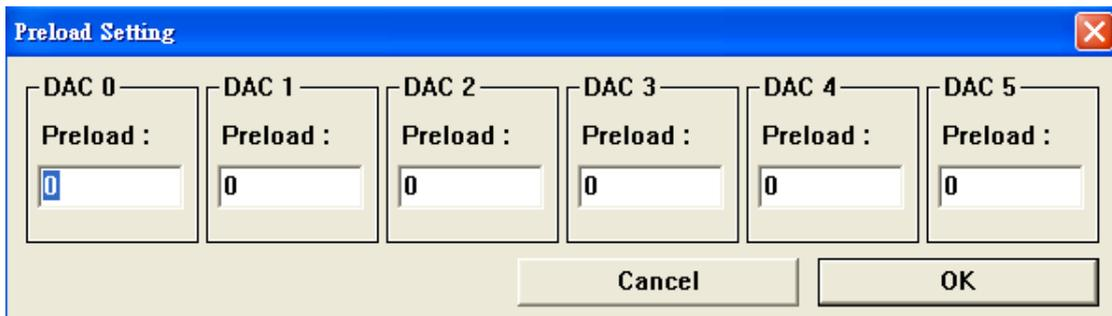

Figure 4-9.3
(2) Set DAC preload value (as shown in Figure 4-9.3)